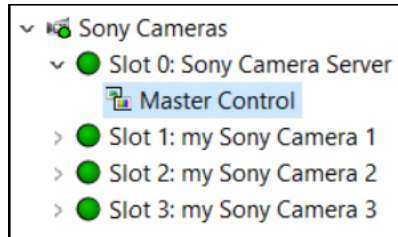

Figure 3.2 - The Master Control Node in the DashBoard Tree
The advanced configuration interface appears (**Sony CNA-1 Configuration**). See **Figure 3.2**.
- If you are configuring a computer other than the first computer (proxy server), in the DashBoard tree, expand the node for the cameras, expand the **Sony Camera Server** node (**Slot 0**), and then tap the **Master Control** node (**Figure 3.2**).